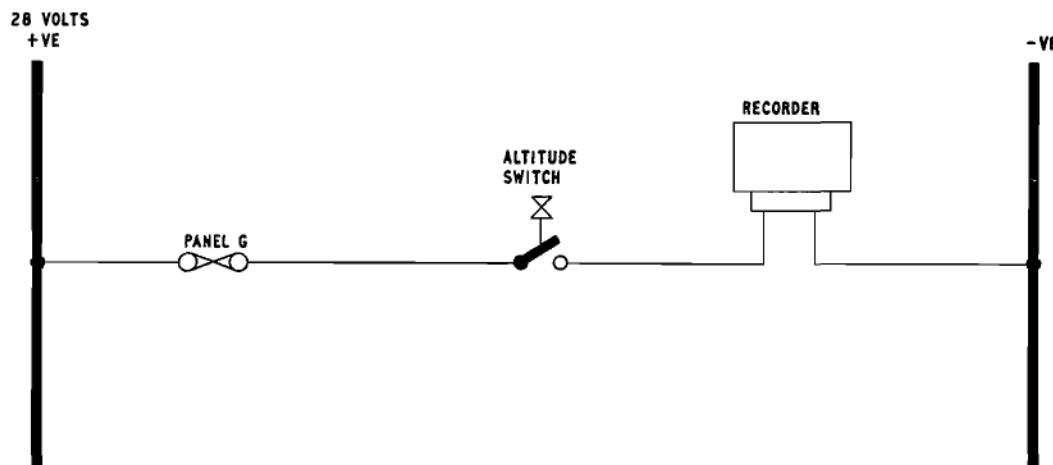

Fig. 6. V.G. recorder (pre-Mod. 2833 only)
**V.G. RECORDER ALTITUDE SWITCHING (Mod. 1634) (fig. 6)**